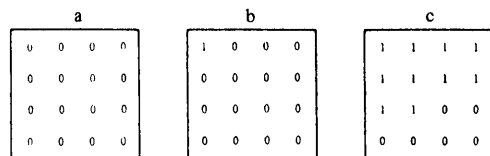

Figure 1 Addressing method of for 16 bit memory in the Marching pattern
- (1) Clear all bits . . . . . See Fig. 1 (a)
- (2) Read "0" from 0th address and check that the read data is "0". Hereafter, "Read" means "checking and judging data"
- (3) Write "1" on 0th address. . . . . See Fig. 1 (b)
- (4) Read "0" from 1st address.
- (5) Write "1" on 1st address.
- (6) Read "0" from nth address.
- (7) Write "1" on nth address . . . . . See Fig. 1 (c)
- (8) Repeat (6) to (7) to the last address. Finally, all data will be "1".
- (9) After all data become "1", repeat from (2) to (8) replacing "0" and "1".